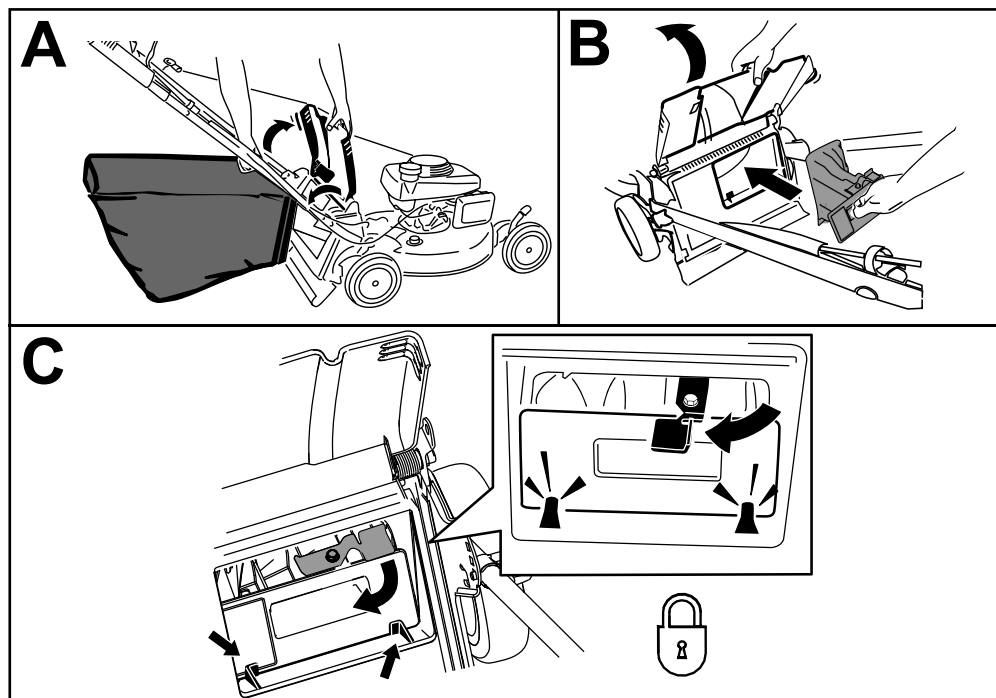
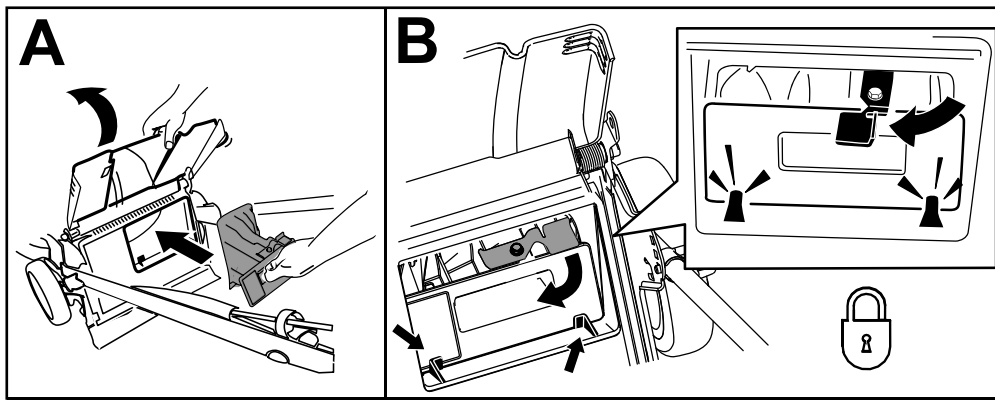

Figure 18
Figure 19
1. Raise and hold up the rear deflector and lift the grass bag up by the handle off the notches of the handle brackets (A of Figure 18).
2. Install the rear plug (B of Figure 18).
Important: Ensure that the rear plug is locked in place. To lock the plug, firmly push the plug in until it snaps into place behind the tabs, and rotate the lever on the plug to the left (C of Figure 18).
Important: Ensure that the rear plug is locked in place. To lock the plug, raise the rear deflector (Figure 19), firmly push the plug in until it snaps into place behind the tabs, and rotate the lever on the plug to the left (Figure 18).